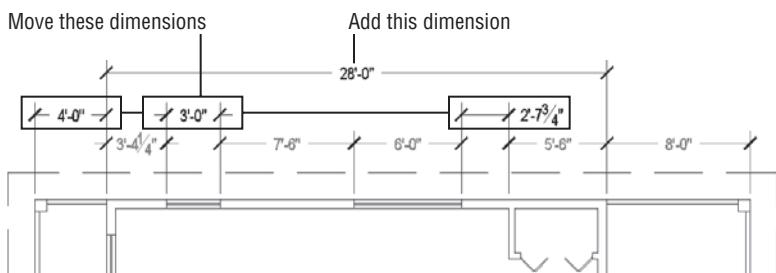

FIGURE 12.26 Adjusted dimensions with an overall cabin dimension added
6. Some of the dimensions, particularly on the left end of the cabin, appear cluttered with some of the arrowheads and text overlapping. Select the dimensions that need adjustment and use the grips near the arrows or at the text to adjust the dimension line or text location (see Figure 12.26).
7. Finally, add a linear dimension from the end of the front deck to the beginning of the cabin and another overall dimension from one end of the cabin to another, as shown in Figure 12.26.